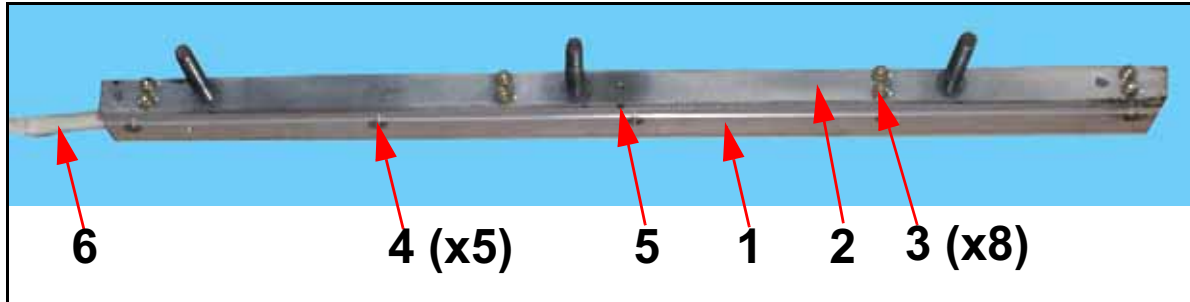

Figure 7-38. Seal Bar Assembly
- 13 Loosely assemble seal bar halves (1 in Figure 7-38) and upper bar (2) with eight top screws (3) and five side screws (4). Make sure upper bar is oriented so that thermocouple set screw hole (5) is towards the front while the heater element cable (6) is towards the left. **Do not Tighten any screws yet.**